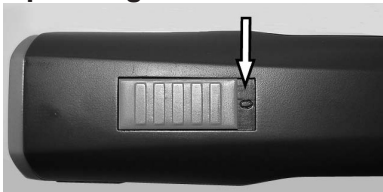

Fig. 4 Switch in OFF-position ("0")
1. Move the switch to position "0" (Fig. 4).